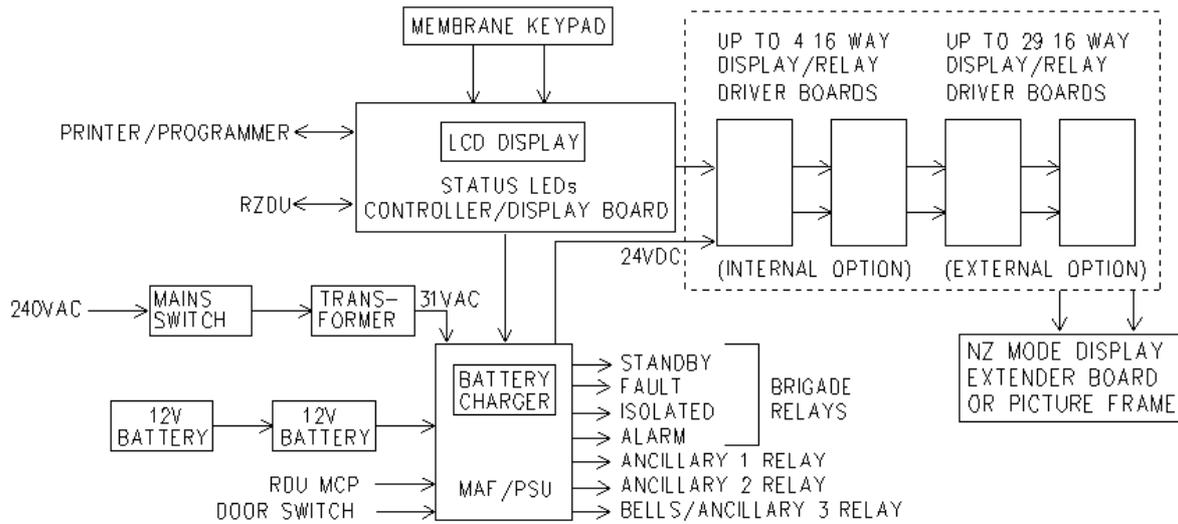

FIG 2.3.1
**A basic MAF Configured RDU system** has one Controller/Display and one MAF/PSU, interconnected by Flat Ribbon Cable (FRC), as shown in Fig 2.3.1. For New Zealand operation, a Display Extender Board is normally also used.